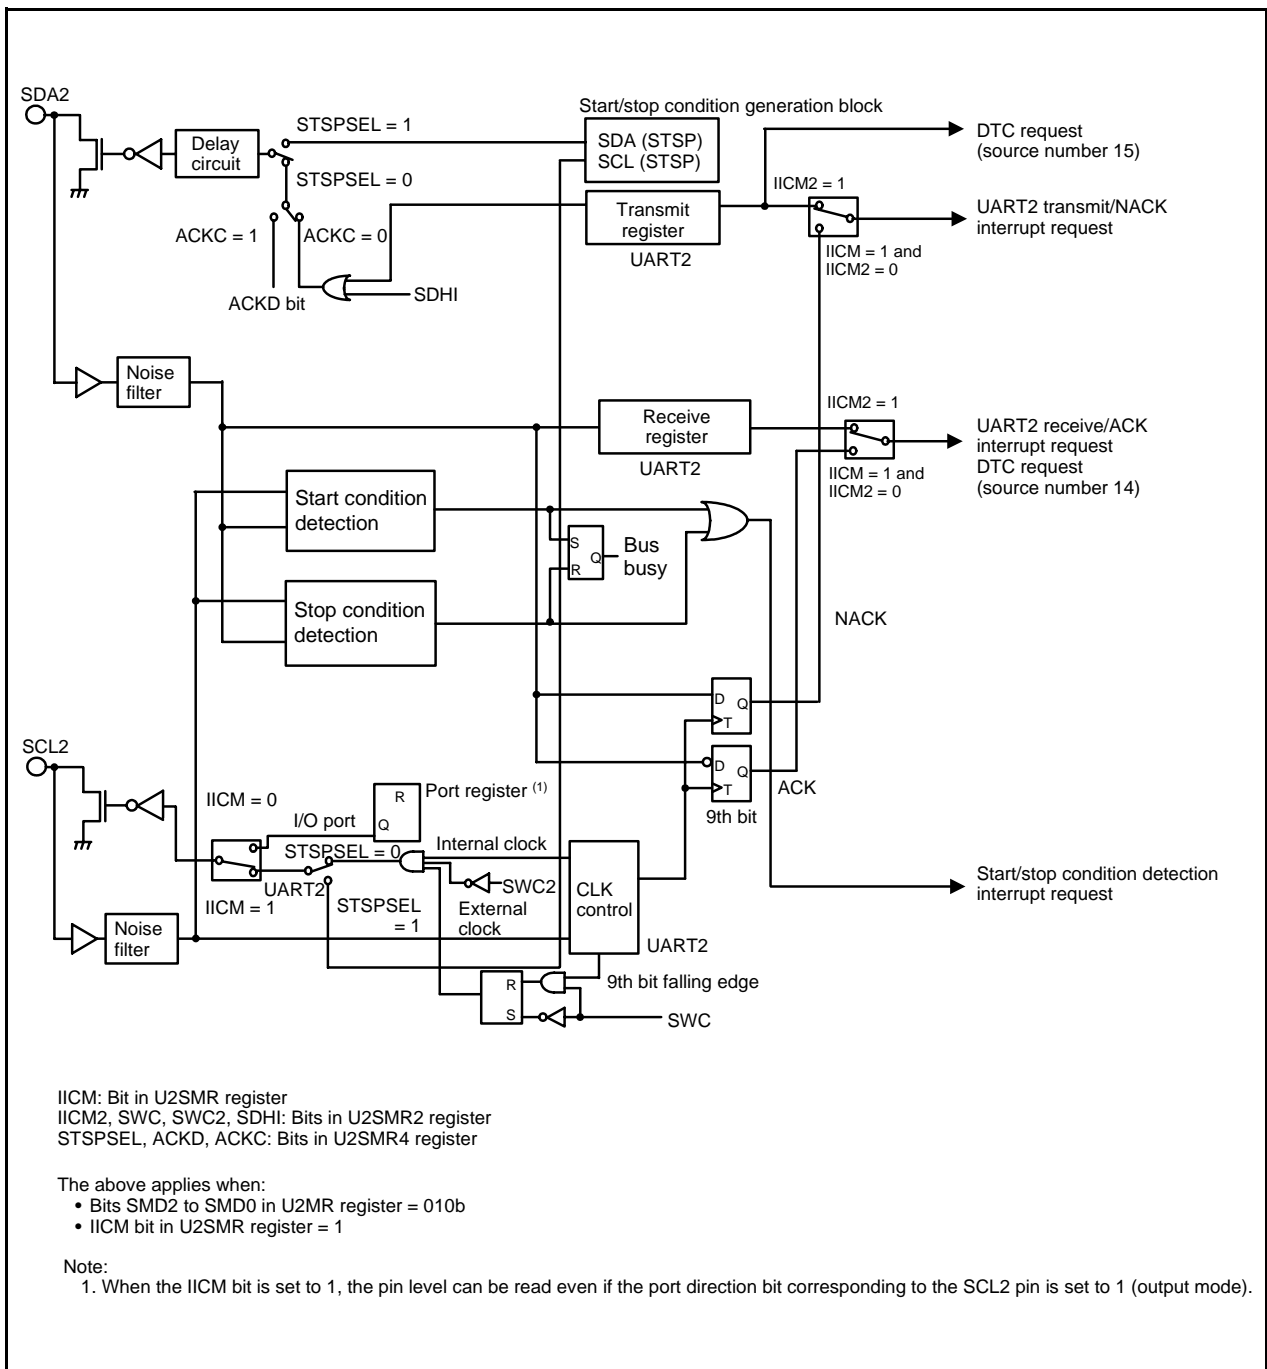
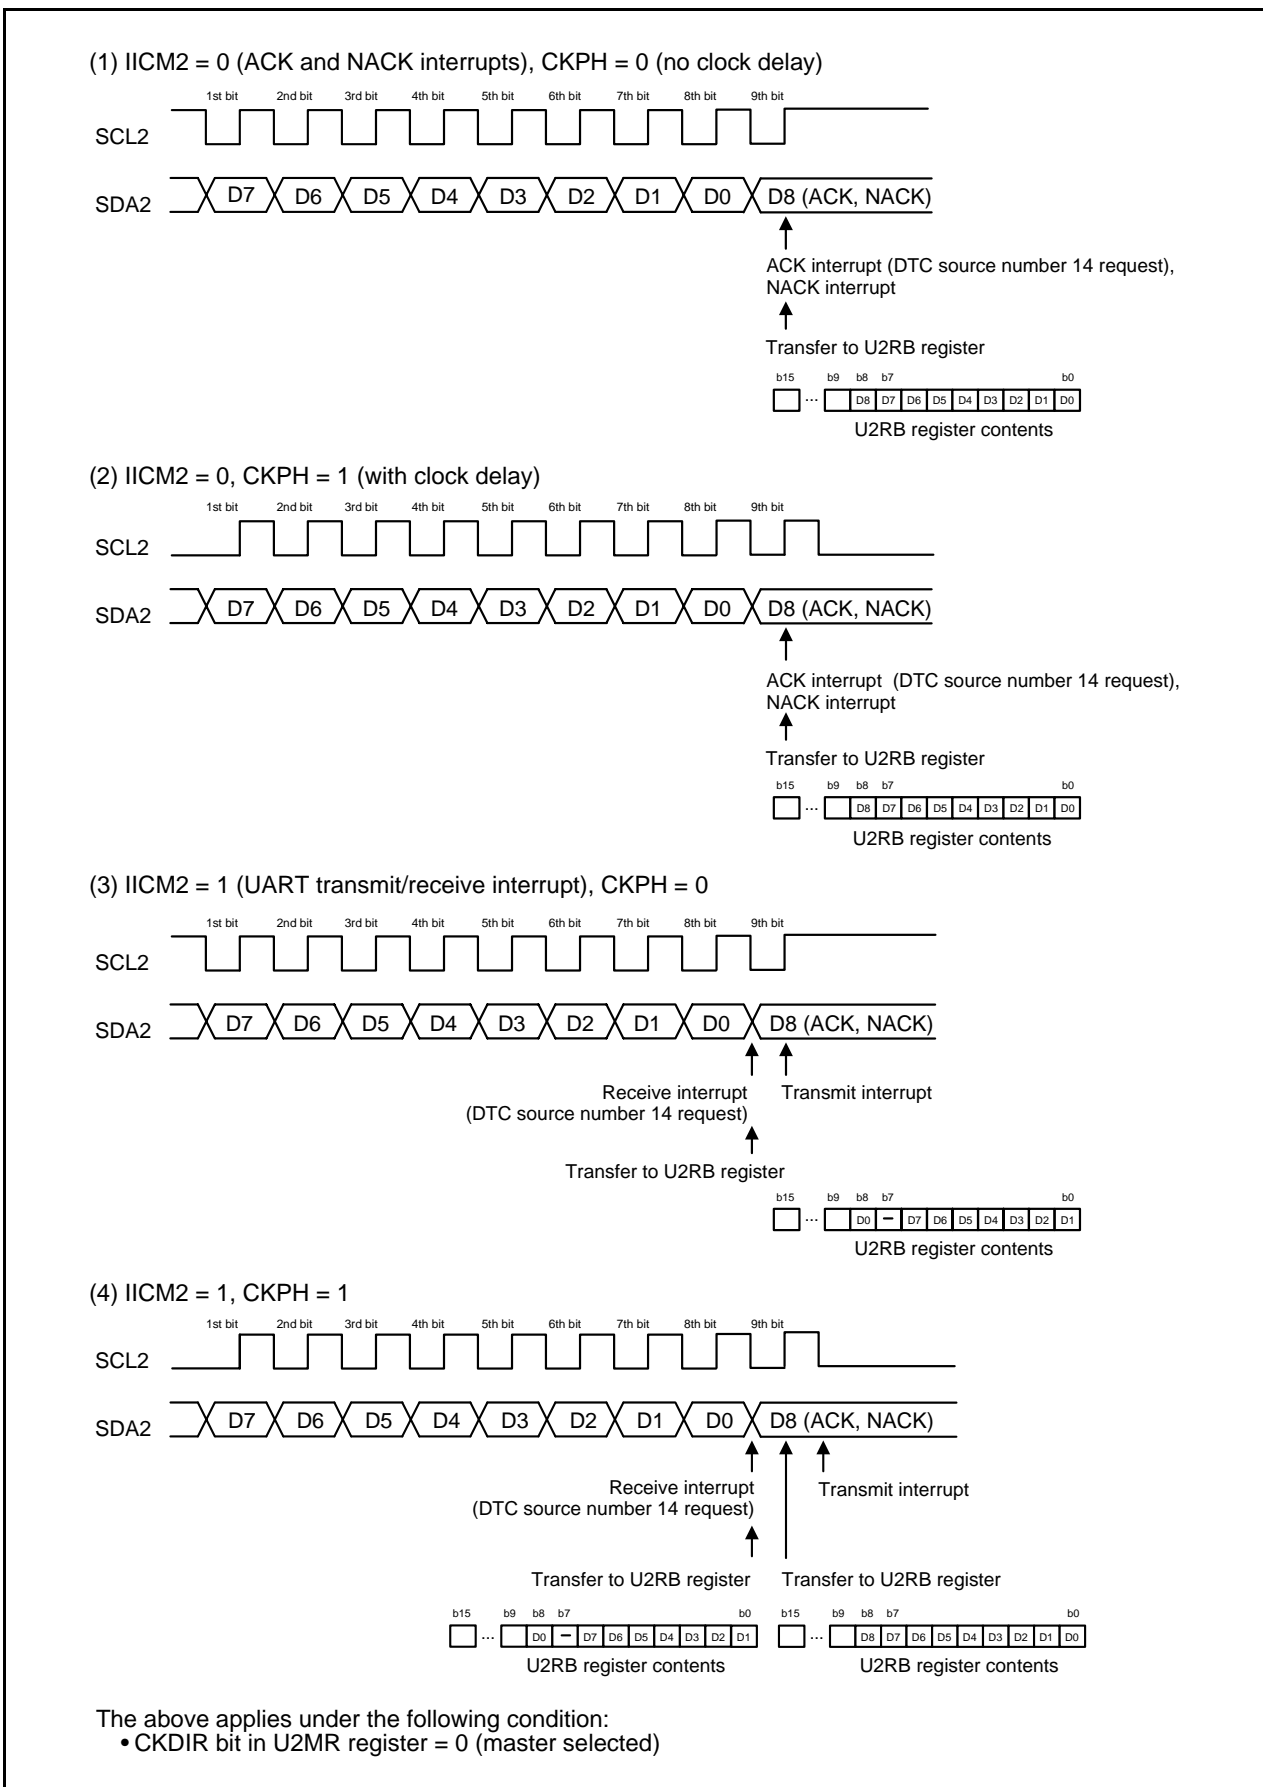

Figure 25.13 Block Diagram of I²C Mode
Figure 25.14 Transfer to U2RB Register and Interrupt Timing
I²C mode is provided for use as a simplified I²C interface compatible mode. Table 25.9 lists the I²C Mode Specifications. Tables 25.10 and 25.11 list the registers used in I²C mode and the settings. Table 25.12 lists the I²C Mode Functions, Figure 25.13 shows a Block Diagram of I²C Mode, and Figure 25.14 shows the Transfer to U2RB Register and Interrupt Timing.
- Refer to **Figure 25.14 Transfer to U2RB Register and Interrupt Timing**.
The transfer clock is used to transmit and receive data as is shown in **Figure 25.14 Transfer to U2RB Register and Interrupt Timing**.